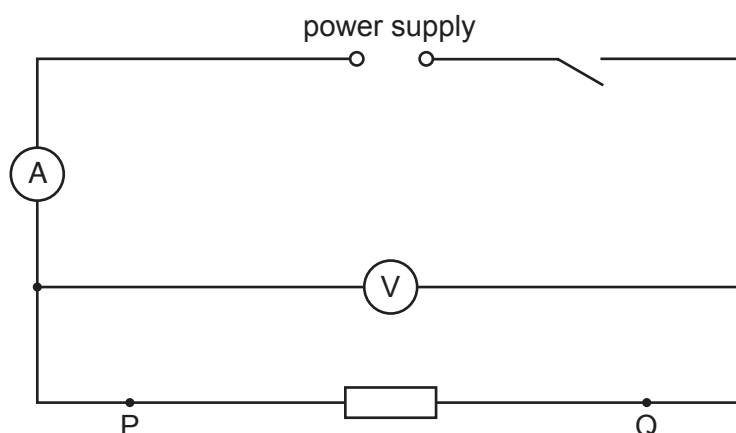

Fig. 2.1
- (iv) Sufficient connecting leads to set up the circuit shown in Fig. 2.1, with 4 spare leads.
1. The circuit is to be set up for candidates as shown in Fig. 2.1, with one of the resistors in place. Two terminals must be labelled P and Q and candidates must be able easily and quickly to connect and disconnect circuit components between them. The circuit should be switched off.
Connect the circuit as shown in Fig. 2.1 and check that the circuit is working.